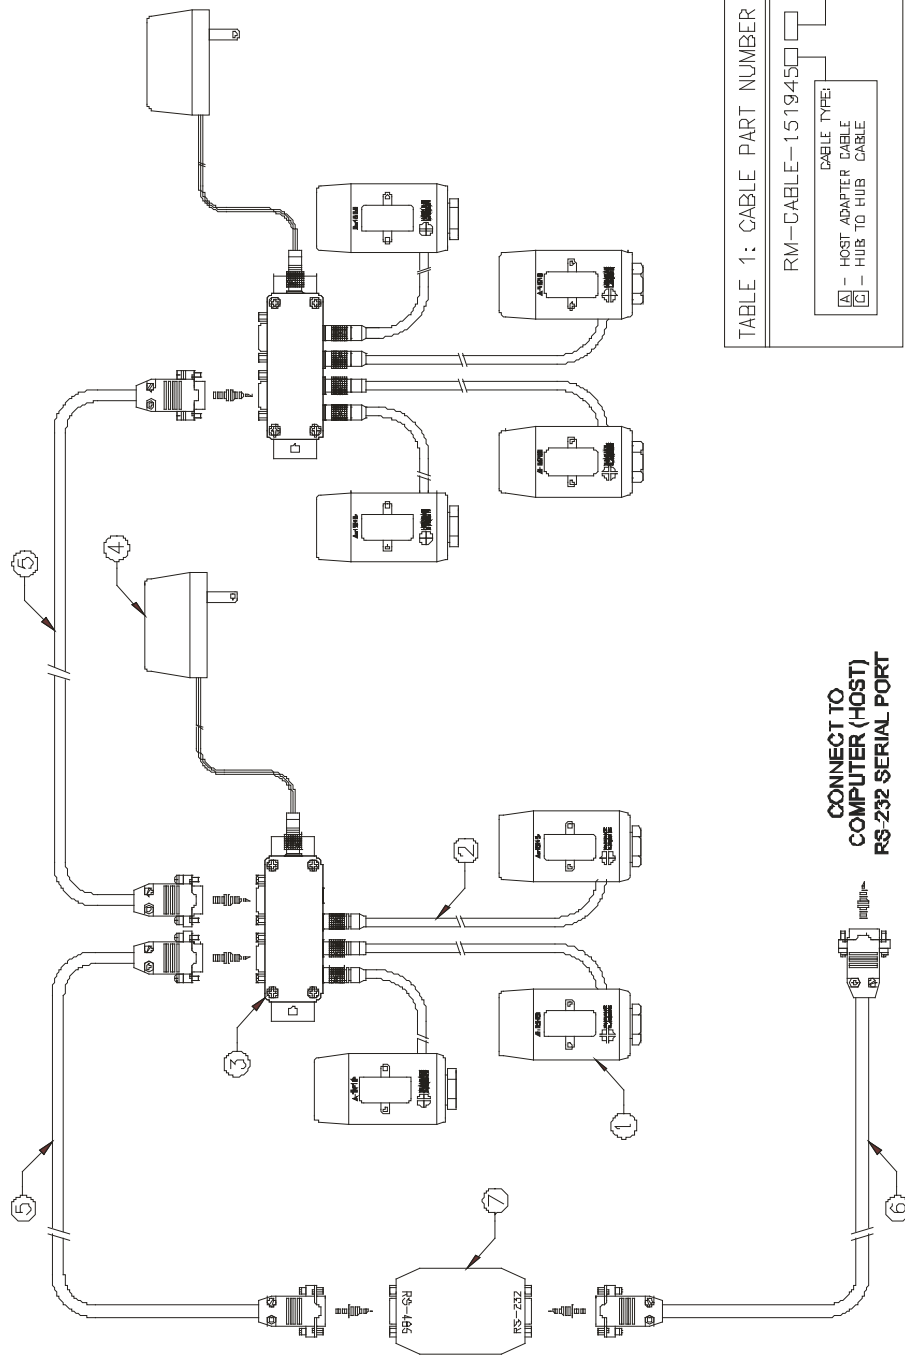

Figure 19 – Using the RS-485 to Connect Multiple UniTargets
5. Check the circle next to Radio and tap **Apply** (see Figure 19).
Typical equipment includes a junction box, (or hub) an alternate power supply to power each junction box, 10-foot or 20-foot cables, and cables from the junction box to an RS-485 to RS-232 converter and to the computer serial port. Figure 19 on Page 18 shows a sample arrangement of targets, junction boxes, alternate power supplies and cables.